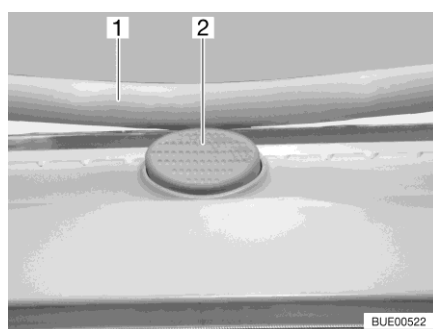

Fig. 21 Safety knob (Heki skylight)
- Press the safety knob (Fig. 21,2) and pull the bar (Fig. 21,1) down with both hands.
- Push the bar upwards with both hands until it is above the safety knob (Fig. 21,2).